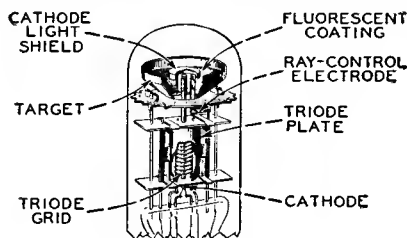

Fig. 49
contain two main parts: (1) a triode which operates as a dc amplifier and (2) an electron-ray indicator which is located in the bulb as shown in Fig. 49. The target is operated at a positive voltage and therefore attracts electrons from the cathode. When the electrons strike the target they produce a glow on the fluorescent coating of the target. Under these conditions, the target appears as a ring of light.